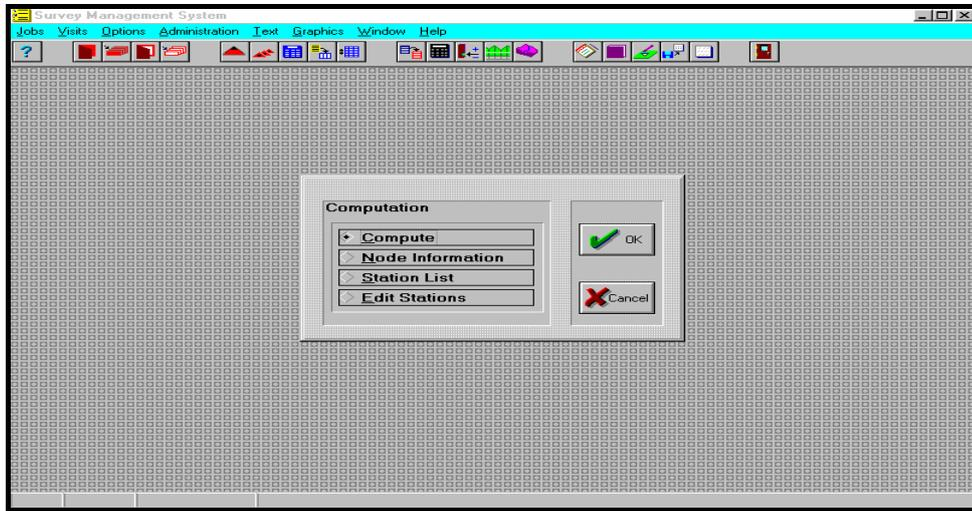

Fig 4.8
- Inspect the options, Fig 4.8. Select Compute.